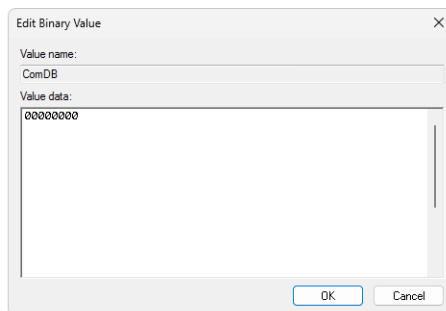

Fig. 16: Registry Editor - cleaned up ComDB
- Select all the data in the field *Value data* and **delete** them manually. Click *OK*. When you try to *Modify...* the **ComDB** again you should be presented with cleaned up window as seen in **Fig. 16** on pg. 13..